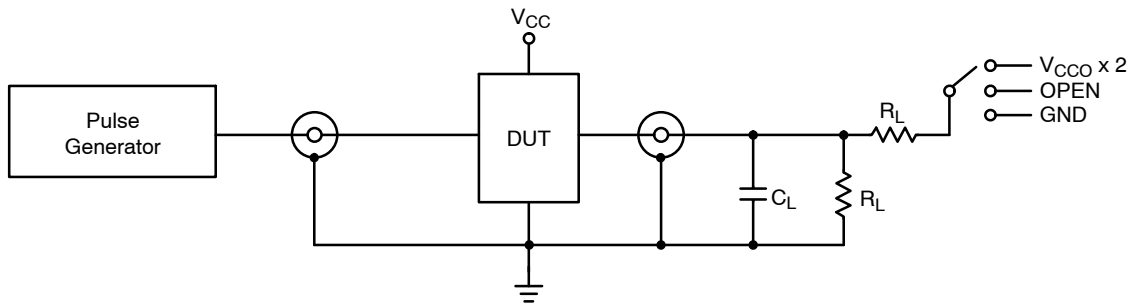

Figure 3. AC (Propagation Delay) Test Circuit
1. Propagation delays defined per Figures 3 and 4.
($C_L = 50$ pF, $R_L = 2$ k Ω , $R_{pull-up} = 50$ k Ω , test circuit shown in Figure 3)
($C_L = 50$ pF, $R_L = \infty$, $R_{pull-up} = 2$ k Ω , test circuit shown in Figure 3)